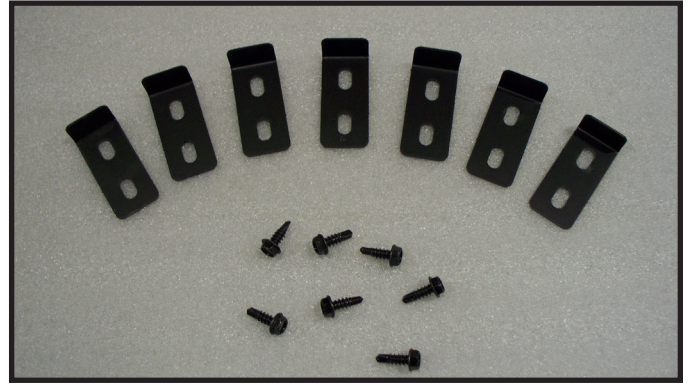

Figure 4. Angle Tabs with Screws.
- (7) Angle tabs and (7) Sheet metal screws. See Figure 4.